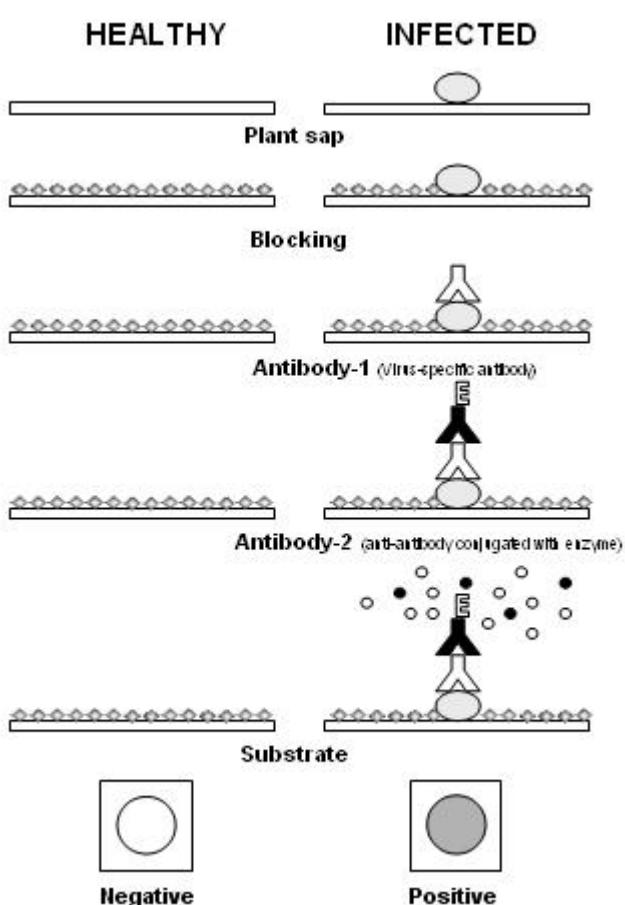

Figure 1. Steps followed in NCM-ELISA
- Detecting the virus specific antibodies with enzyme-labeled antibodies by means of an appropriate substrate (see Figure 1). The intensity of the coloration which is proportional to the virus concentration is stable for a long period of time. The membrane can be easily stored. As in DAS-ELISA, several viruses can be detected at the same time on one membrane by using a mixture of antibodies which are specific for the virus to be tested. This is especially useful for seed production programs where it is generally important to learn only if the sample is infected with virus(es) or not.